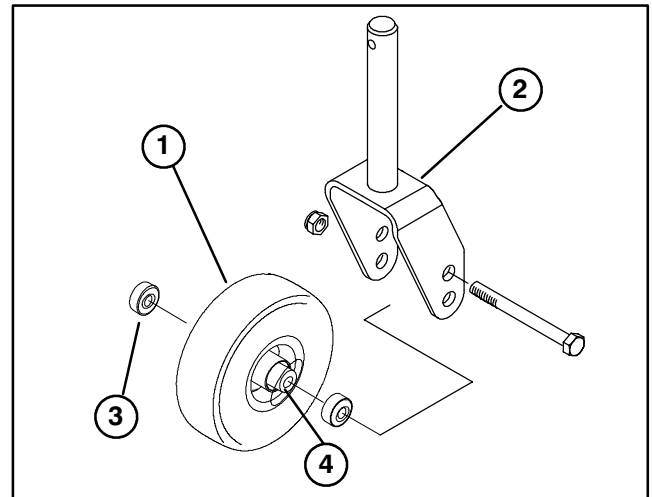
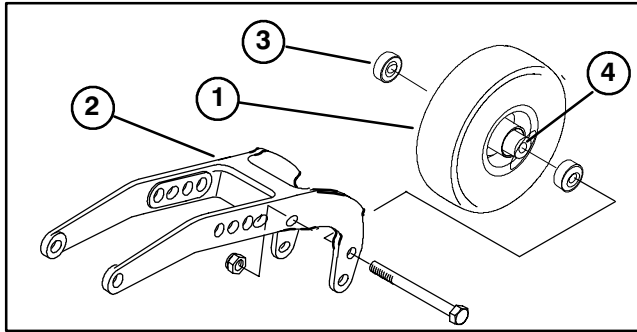

Figure 78
Figure 79
SERVICING CASTOR WHEELS AND BEARINGS (Fig. 78–79)
1. Remove locknut from capscrew holding castor wheel assembly between front castor fork (Fig. 78) or rear castor pivot arm (Fig. 79) Grasp castor wheel and slide capscrew out of fork or pivot arm.